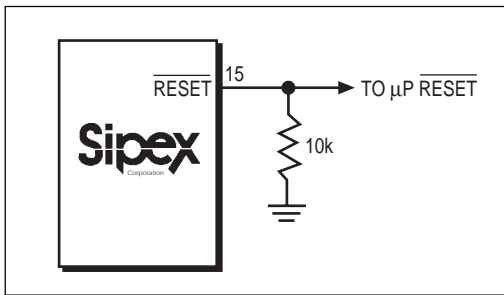

Figure 4. Adding an external pull-down resistor ensures $\overline{\text{RESET}}$ is valid with V_{CC} down to GND .
1.6mA at $\text{VOUT} - 0.5\text{V}$. When no backup battery is used, $\overline{\text{RESET}}$ output is valid down to $V_{CC} = 1\text{V}$, and an external $10\text{k}\Omega$ pull-down resistor on $\overline{\text{RESET}}$ ensures that $\overline{\text{RESET}}$ will be valid with V_{CC} down to GND as shown on *Figure 4*. As V_{CC} goes below 1V , the gate drive to the $\overline{\text{RESET}}$ output switch reduces accordingly, increasing the $r_{DS(\text{ON})}$ and the saturation voltage. The $10\text{k}\Omega$ pull-down resistor ensures the parallel combination of switch and external resistor is $10\text{k}\Omega$ and the output saturation voltage is below 0.4V , while sinking $40\mu\text{A}$. When using a $10\text{k}\Omega$ external pull-down resistor, the high state for the $\overline{\text{RESET}}$ output with $V_{CC} = 4.75\text{V}$ is 4.5V typical. For battery voltages greater than or equal to 2V , $\overline{\text{RESET}}$ remains valid for V_{CC} between 0V and 5.5V . $\overline{\text{RESET}}$ will be asserted during the following conditions: